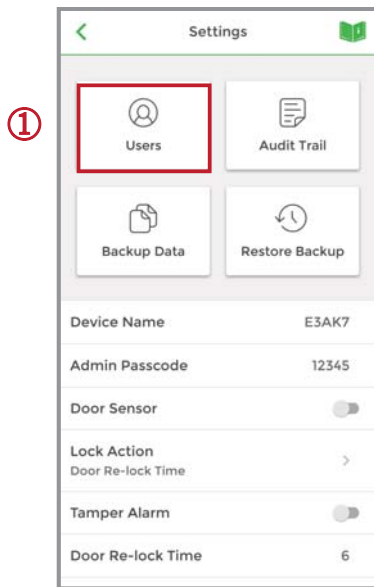

Figure 1
### ① Users : (See Figure 1 below)